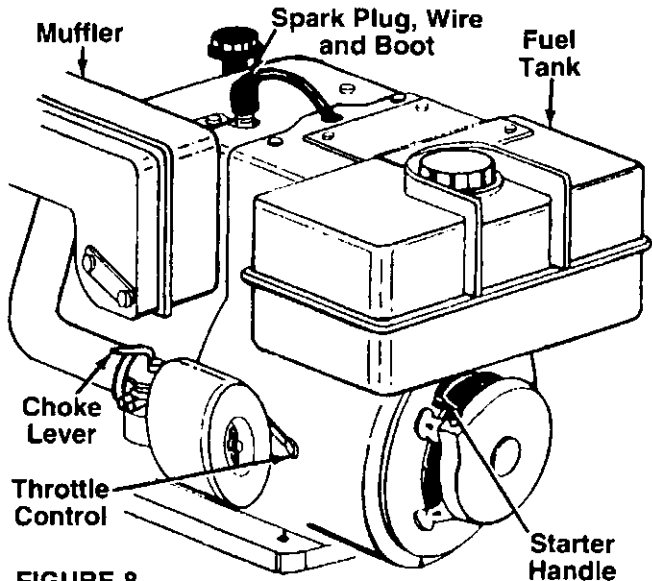

FIGURE 8.
- Remove fuel cap and fill fuel tank. See figure 8. Use fresh, clean, unleaded automotive gasoline. Capacity is one gallon. Replace fuel cap.
- Attach spark plug wire and rubber boot to spark plug if necessary. See figure 8.
- Place the throttle control lever in FAST position. See figures 8 and 9.
- Grasp starter handle (see figure 8) and pull rope out slowly until engine reaches start of compression cycle (rope will pull slightly harder at this point). Let the rope rewind slowly.